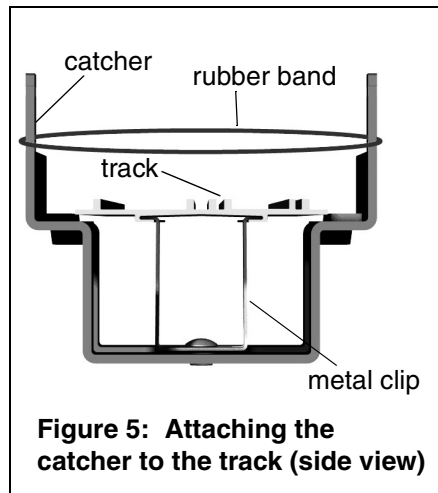

Figure 5: Attaching the catcher to the track (side view)
a) To attach catcher to the track, squeeze the spring metal clip and insert the clip into the slot on the bottom of the track, then release the clip (See Figure 5). To create a rubber band bumper, stretch a rubber band across the two posts that stick up on the end of the catcher. If you want the catcher to catch the car, orient the catcher so the car enters the end of the catcher opposite the end with the rubber band bumper. If you want the car to bounce off, orient the catcher so the car hits the rubber band bumper.